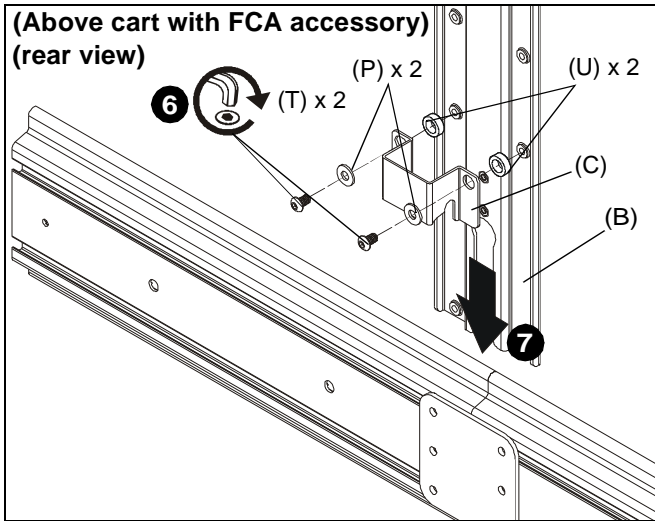

Figure 27
6. Use two 1/4-20 x 7/16" button head cap screws (T), two large washers (P) and two 3/5" spacers (U) to secure support bracket (C) to main bracket (B). (See Figure 27)
7. Slide main bracket (B) onto front of cart mount head assembly until support bracket (C) rests on top of head assembly. (See Figure 27)